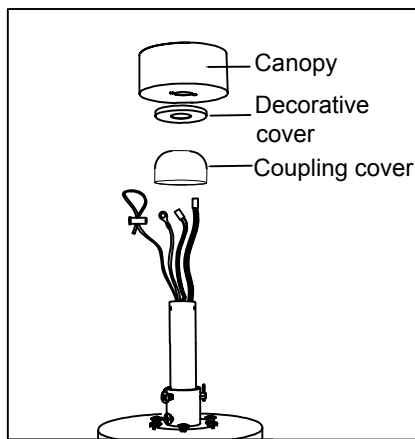

Figure 1.3
- Place all wires through the coupling cover, decorative cover and canopy.(Figure 1.3)